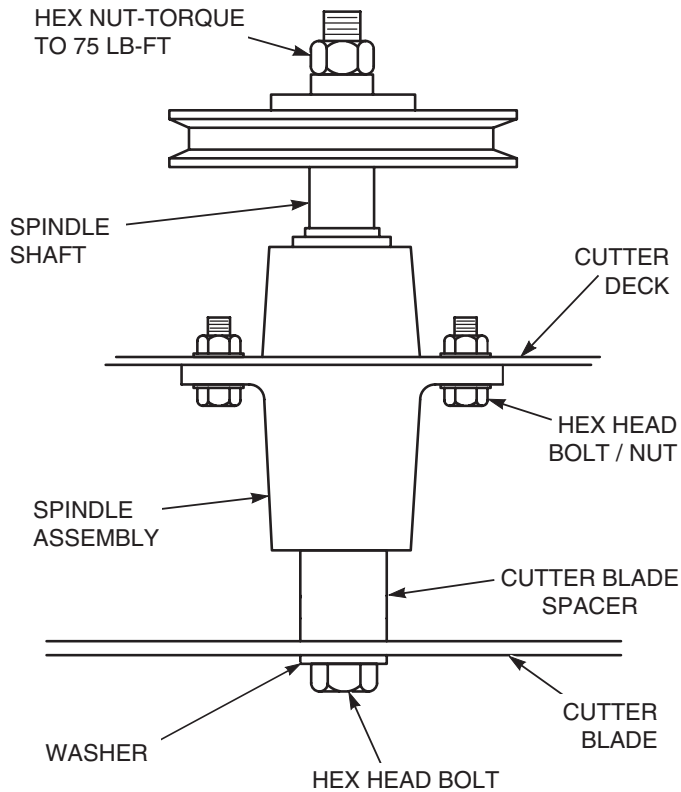

Figure 7-7. Blade Replacement
3. Secure the cutter blades to prevent them from rotating, (use the optional Blade Buddy tool P/N 9212, to assist in securing the cutter blades), remove the nut from the blade attaching bolt. Remove the cutter blade, bolt and spacer from the spindle shaft. See Figure 7-7.
- Install the hex nut to the blade bolt at the top of the cutter spindle. Secure the blades from rotating and torque to 75 lb-ft. See Figure 7-7.